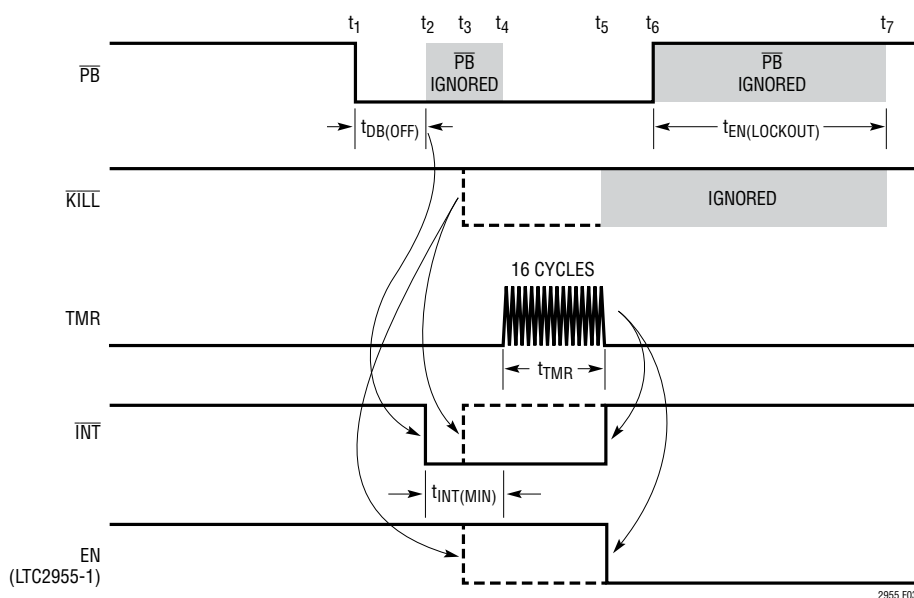
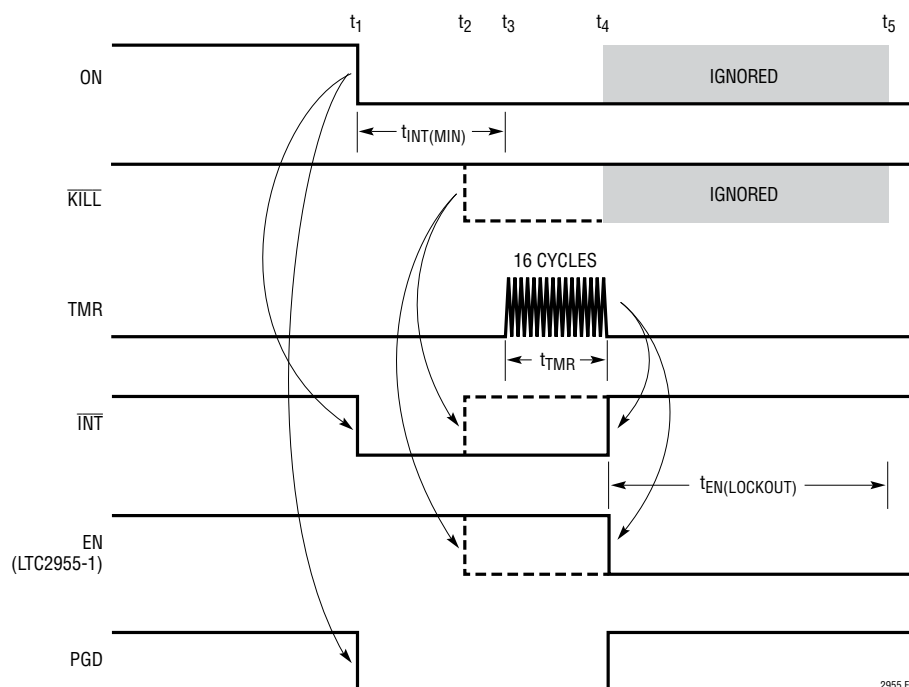

Figure 3. Pushbutton Turn-Off Timing
Figure 5. ON Pin Turn-Off Timing (DFN Only, $V_{SEL} > 1.2V$ and the Preceding Turn-On Sequence Was Initiated by the ON Pin Rising Edge)
Figure 3 shows the turn-off sequence of the LTC2955-1 initiated through the \overline{PB} pin. A turn-off sequence refers to the LTC2955-1 releasing the EN output. This turns off the voltage regulator.
A high to low transition on \overline{PB} (t_1) starts the turn-off sequence. In order to assert \overline{INT} (interrupt output) low, \overline{PB} must stay low continuously for 32ms ($t_{DB(OFF)}$). At the end of the 32ms (t_2), the \overline{INT} pin is asserted low and will stay low for at least 32ms ($t_{INT(MIN)}$), even if the \overline{PB} pin goes high during this period (t_2 to t_4). When the μP receives this interrupt signal, it should start to perform its power-down functions and assert \overline{KILL} low (t_3) once it is done. The LTC2955-1 will then release \overline{INT} and pull EN low, thus turning off the system power, as shown with dotted lines in Figure 3.
high). This can be done by holding the pushbutton down for a long period ($> t_{DB(OFF)} + t_{INT(MIN)} + t_{TMR}$) as shown with the solid lines in Figure 3. If the \overline{PB} pin remains low at the end of the 32ms minimum \overline{INT} pulse width ($t_{INT(MIN)}$), the external timer will start counting (t_4).
After the EN output goes low and the \overline{PB} pin goes high, the LTC2955-1 starts the one second lockout time ($t_{EN(LOCKOUT)}$). During this lockout time (t_6 to t_7 in Figure 3)
Figure 5 shows the turn-off sequence of the LTC2955-1 initiated by the ON pin. The timing sequence is slightly different from that by the pushbutton as there is no debounce time ($t_{DB(OFF)}$) before the \overline{INT} pin pulls low. The ON pin falling edge can start the turn-off sequence only if the following two conditions are met: (1) The preceding turn-on sequence was initiated by the ON pin rising edge, and (2) The SEL pin must be tied high ($>0.8V$). For TS8 package, the ON pin falling edge is ignored.
In Figure 5, a high to low transition at ON (t_1) starts the turn-off sequence. The interrupt output (\overline{INT}) is asserted immediately when the ON pin goes low. Unlike the \overline{PB} pin turn-off sequence, there is no 32ms debounce time ($t_{DB(OFF)}$) for the ON pin going low. This allows the system to initiate a shutdown as soon as the monitored supply is removed and allows the μP the maximum amount of time
to perform power-down functions. The \overline{INT} pin will stay low for at least 32ms ($t_{INT(MIN)}$). When the μP receives this interrupt signal, it should start to perform its power-down functions and assert the \overline{KILL} input low (t_2) once it is done. The LTC2955-1 will then release the EN and \overline{INT} outputs, thus turning off the system power, as shown with dotted lines in Figure 5.
If the μP fails to respond (\overline{KILL} pin remains high, as shown with solid line in Figure 5) and the ON pin remains low 32ms after \overline{INT} goes low, the external timer will start counting for 16 cycles (t_{TMR} , t_3 to t_4). If the ON pin remains low at the end of the 16 cycles (t_4), the LTC2955-1 will force the EN pin low and the \overline{INT} pin high. See Applications Information for adjusting t_{TMR} .
The LTC2955 allows the user to force the system power to turn off if the μP fails to respond during fault conditions. As shown by the solid lines in Figure 3 and Figure 5, when the μP fails to bring the \overline{KILL} pin low after the interrupt signal is asserted, the user can force a turn-off by holding down the pushbutton. The length of time that \overline{PB} must be held low is given by a fixed 64ms delay ($t_{DB(OFF)} + t_{INT(MIN)}$) plus an adjustable power-down timer delay (t_{TMR}). The adjustable delay is set by placing an optional external capacitor on the TMR pin. Use the following equation to calculate the capacitance for the desired delay. C_{TMR} is the external capacitor at the TMR pin: